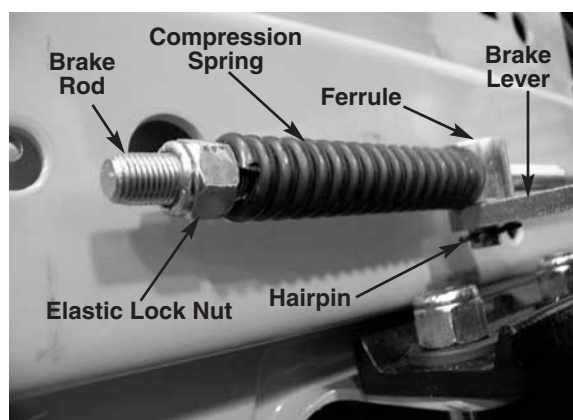

FIGURE 3.
14. Remove both hairpins securing the brake rod ferrules to the brake lever assemblies. See figure 3.